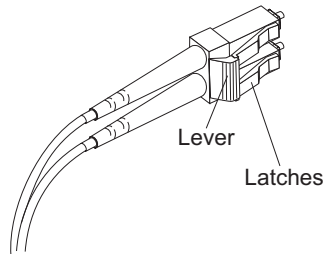

Figure 41. LC-LC fibre-channel cable lever and latches
1. On the end of the LC-LC cable that connects into the SFP module or host bus adapter, press down and hold the lever to release the latches, as shown in Figure 41.